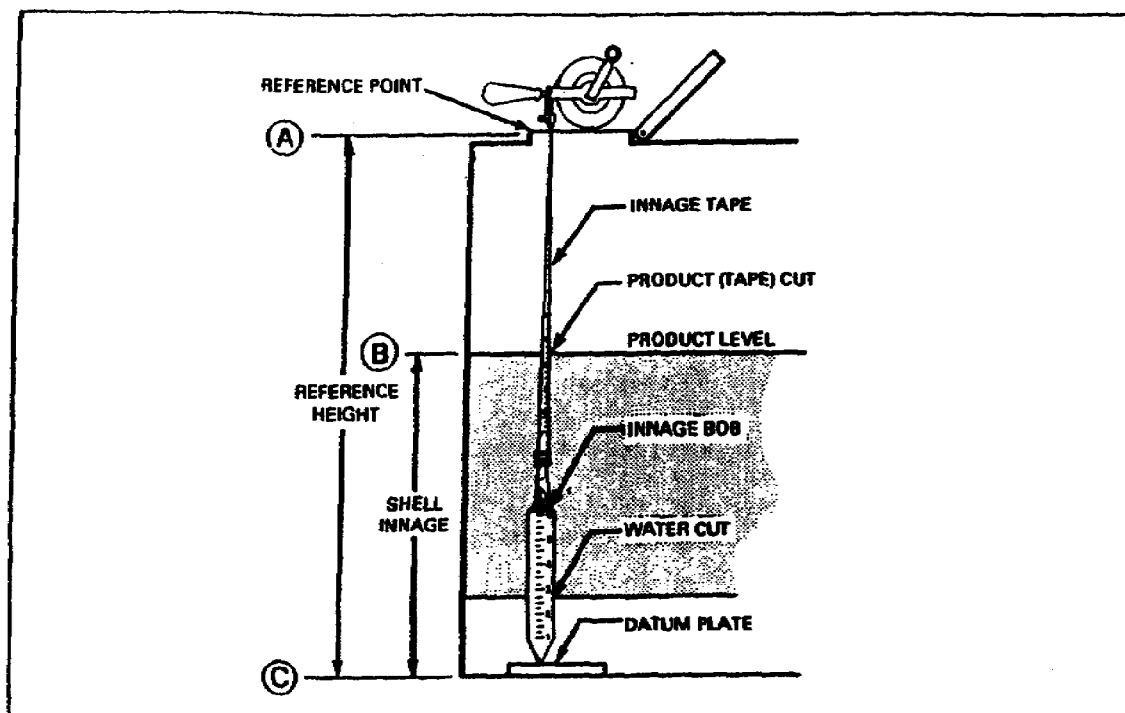

Figure 1-3. Taking an innage reading.
- o Raise the appropriate hatch cover and locate the reference point (shown in Figure 1-3 as point A).
- o Lower the bob and tape into the tank until the tip of the bob just touches the tank bottom or datum plate (the horizontal plane at the level of point C). If you lower the tape too far, the bob tilts and you obtain an incorrect gage reading. Compare the tape reading at the reference point (point A in Figure 1-3) to the reference height (the distance from point A to point C in Figure 1-3) of the container to ensure the gage's accuracy.